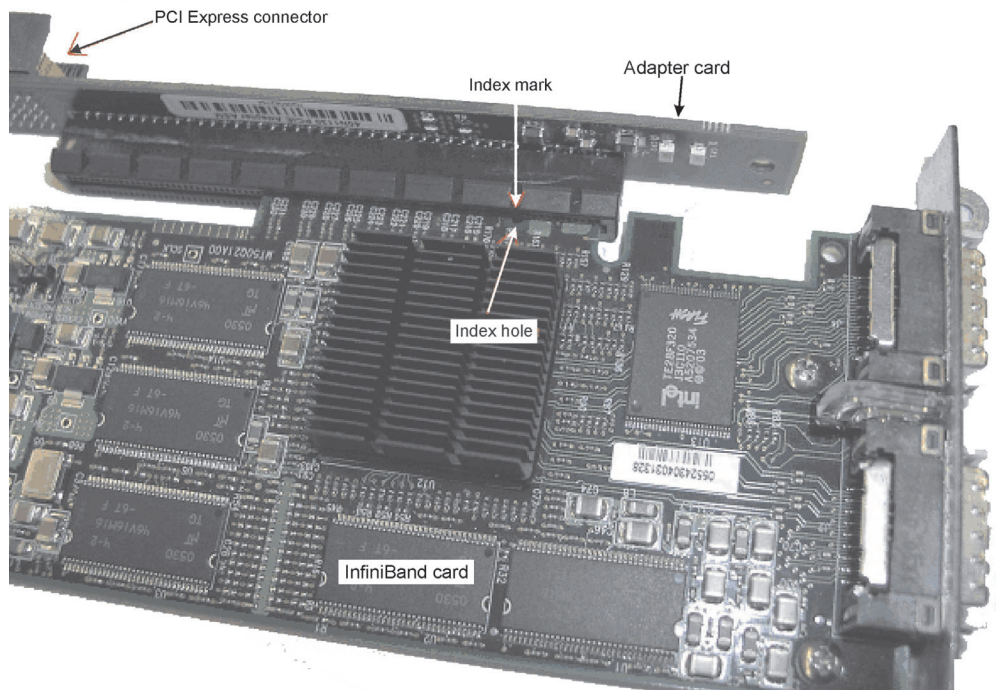

Figure 15. InfiniBand card connected to PCI Express adapter card
8. Plug the InfiniBand card into the adapter. Make sure the index hole of the InfiniBand card matches the index mark of the adapter, see Figure 15 on page 32.